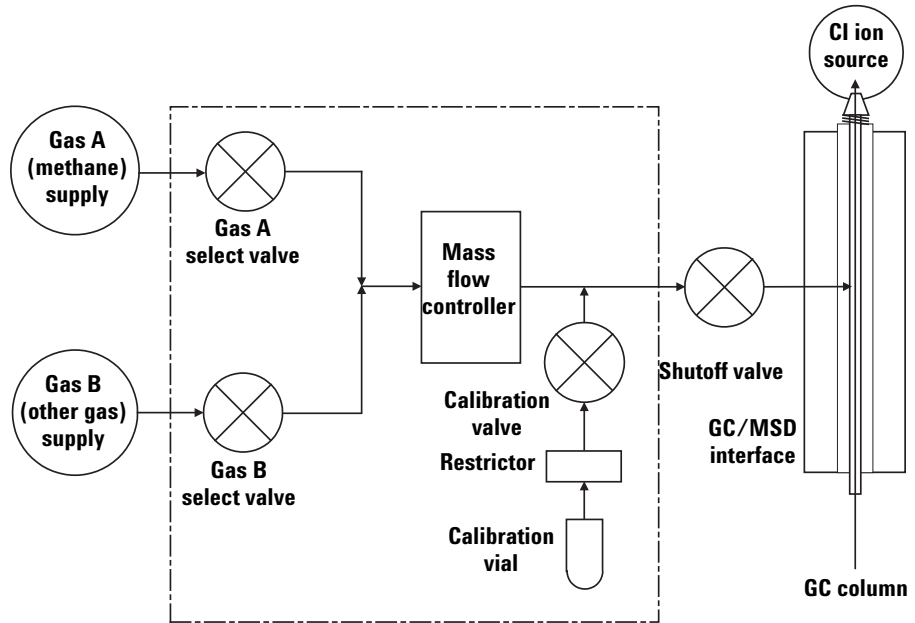

Figure 3 Schematic of CI flow control module
- 1 See Figure 3 and Table 6.
- Close valves starting at the gas select valves (**Gas A** , then **Gas B**), then close the shutoff valve. See Figure 3 and Table 6.